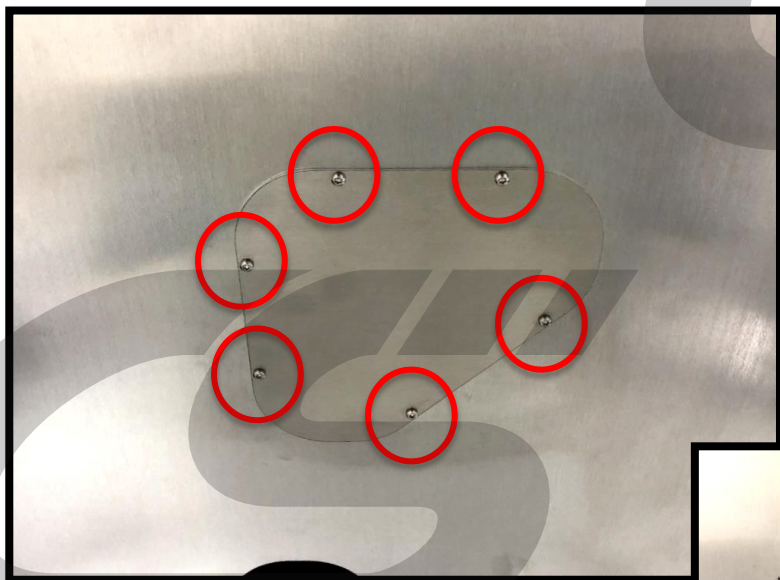

Figure 4a
- To access the oil drain plug and oil filter, remove five (5) of the six T20 Torx screws. They are shown circled in red in **Figure 4a**.